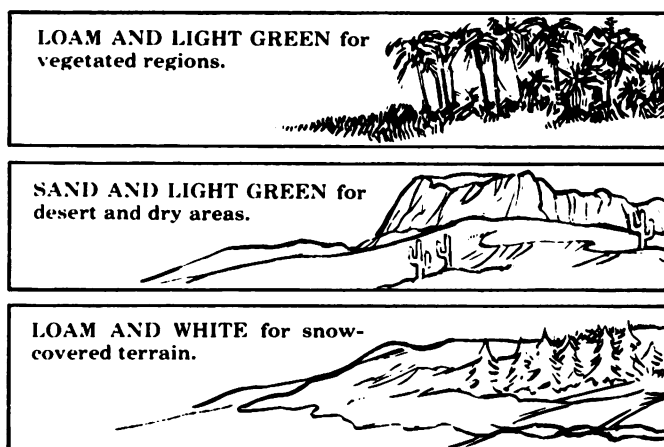

Figure 1.
1. **Guide for skin camouflage** (figure 1). Exposed skin reflects light and attracts the enemy's attention. Even very dark skin will reflect light because of its natural oil. Camouflage face paint sticks are issued in three standard two-tone sticks as follows: